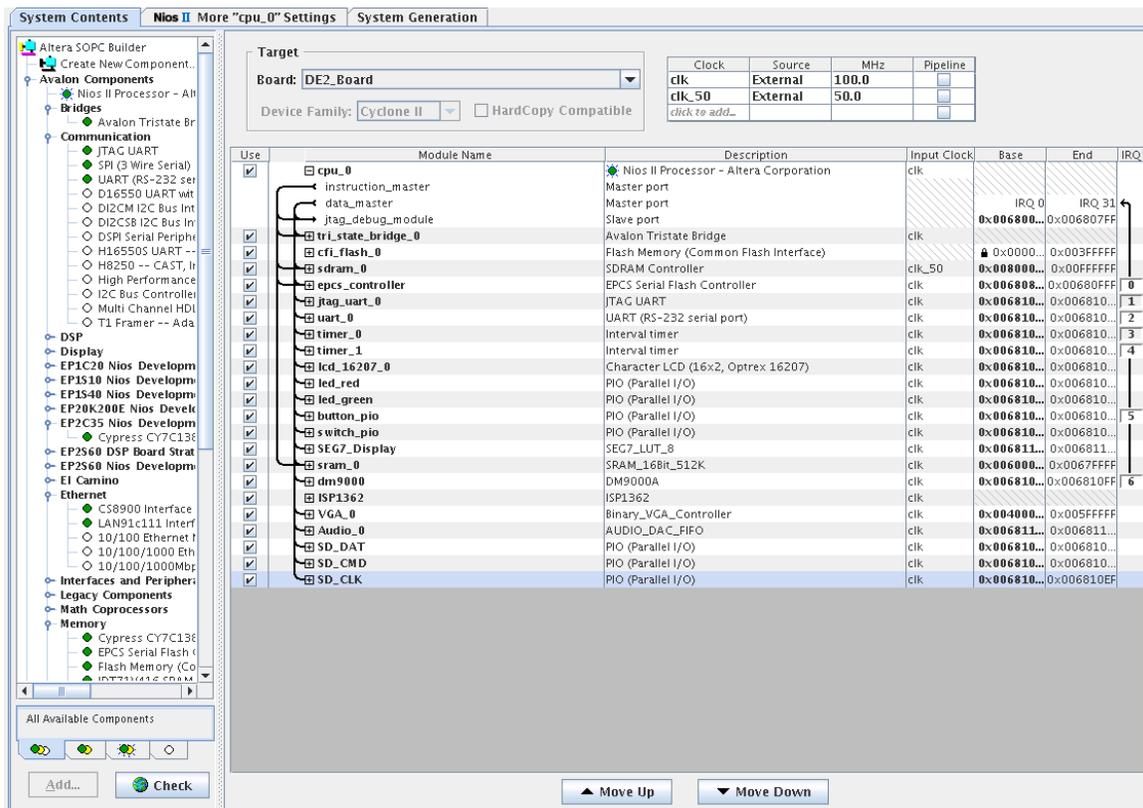

Figure 1 – SOPC with NIOSII and controllers.
4. When SOPC Builder is loaded, you should see that it already have all the necessary component of the DE2 board selected. This is shown in figure 1.